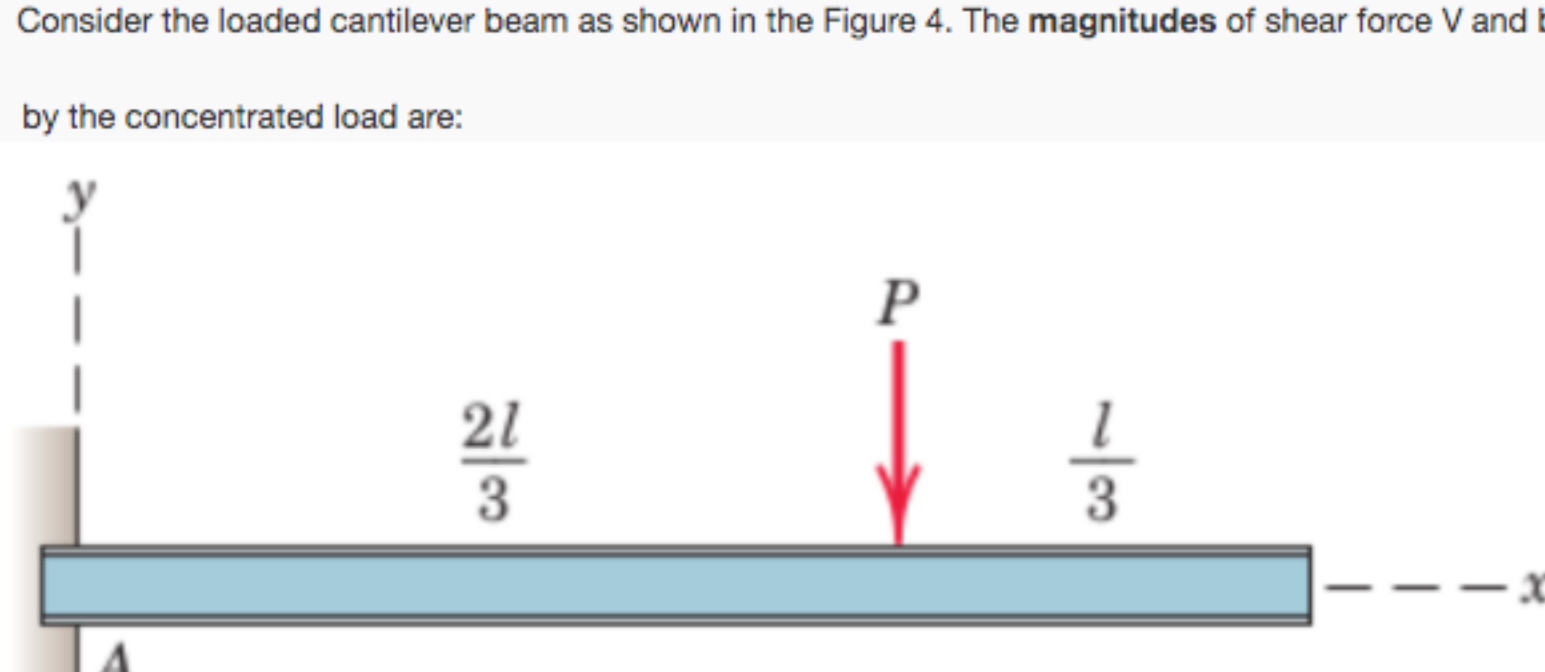

Figure 4: Figure for question No.4
4) Consider the loaded cantilever beam as shown in the Figure 4. The magnitudes of shear force V and bending moment M produced in the beam at $x = l/2$ by the concentrated load are: **1 point**